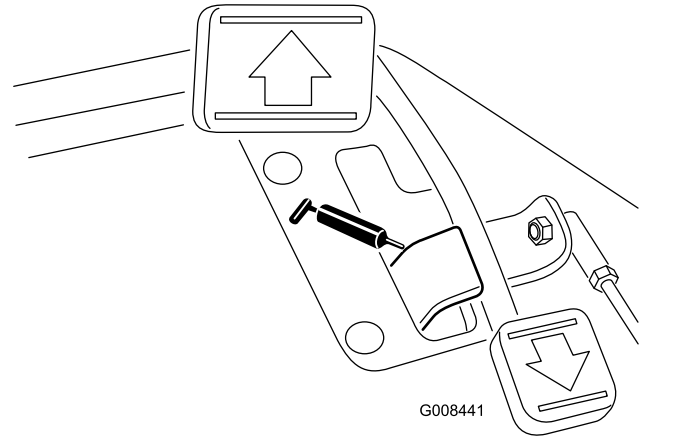

Figure 31
- Traction pedal pivot (1) (Figure 31)